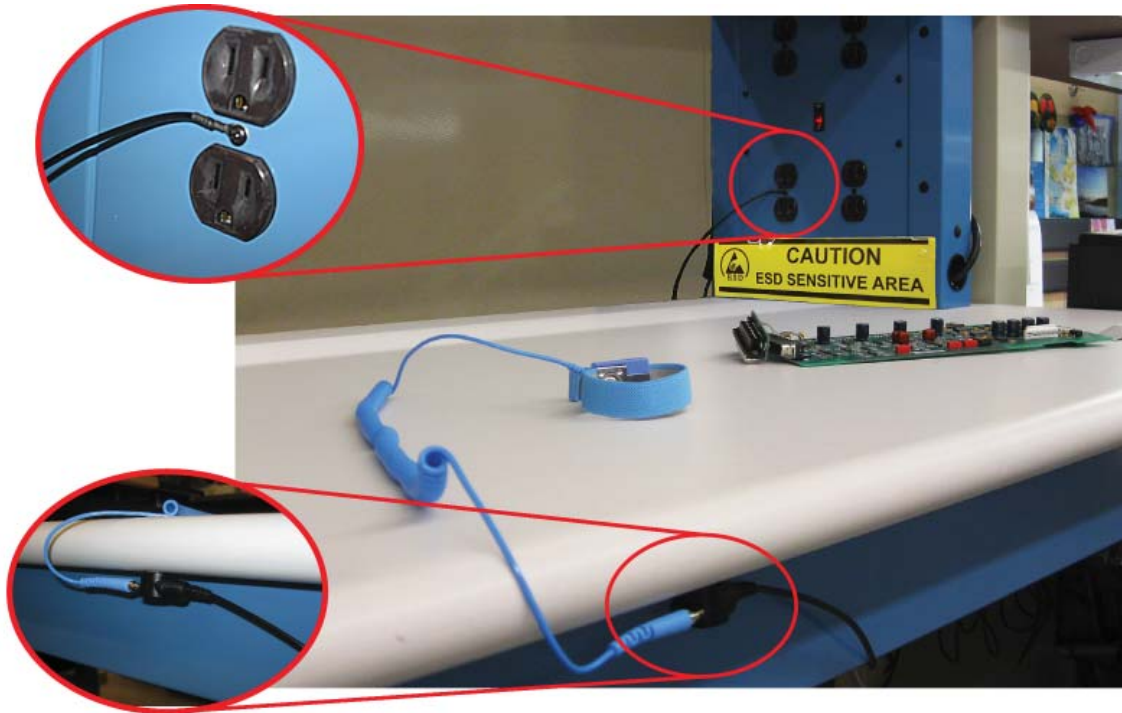

Figure 4. ESD-Safe Workbench
*Provide an ESD safe environment and equipment:* Work stations and other surfaces should contribute to an electrostatic-free location (**Figure 4** on the next page). Also, have all possible tools, clothing, and equipment available to support an ESD preventative environment.